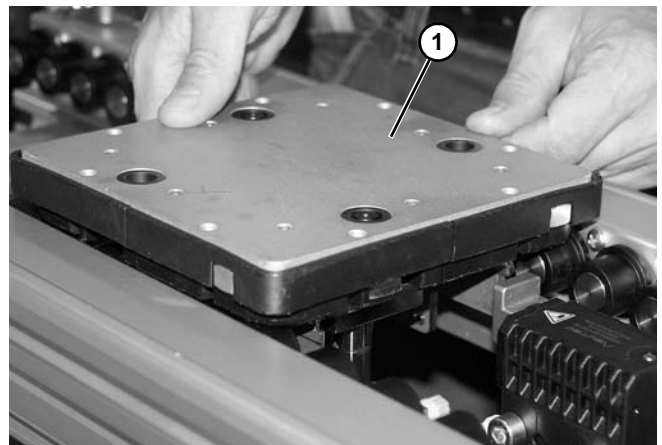

Figure 20
Adjust stroke to that pallet (Figure 20, item 1) raises to desired level.